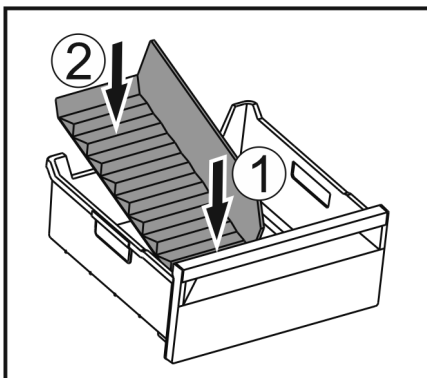

Fig. 114
- ▶ Insert the front part of the ice compartment divider. Fig. 114 (1)
- ▶ Lower the rear part of the ice compartment divider to the drawer bottom. Fig. 114 (2)